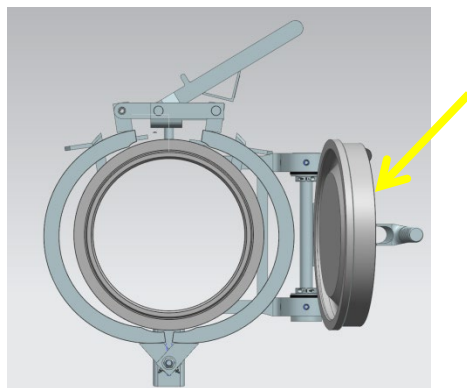

Figure 3: Closure Door
D. Close door and latch clamp rings, see Figure 3.